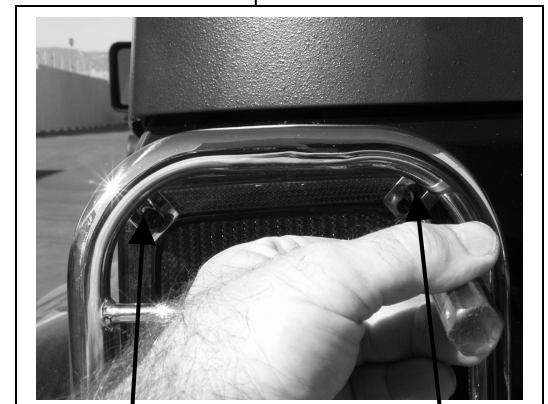

Figure 4
5. Install the other three screws. Align the guard with the top of the lens and tighten the screws using a Phillips screwdriver (Figure 4). **Warning!** Avoid over tightening to prevent damage